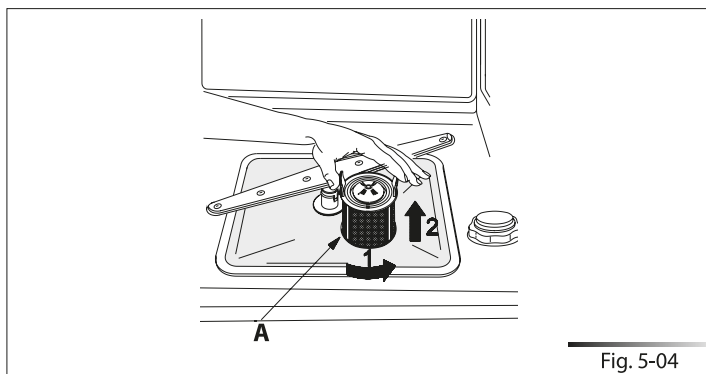

Fig. 5-04
- Periodically inspect the filter unit (ref. A fig. 5-04) and, if necessary, clean it under running water (at room temperature), using a stiff brush. To remove the filter, grip the tabs, turn anticlockwise and lift upwards;
- after cleaning, remount the filter unit, joining the two parts comprising the centre filter by pushing slightly until they click into place; insert the centre filter into the micro-filter (see fig. 5-05). Reposition the filter unit (ref. A fig. 5-04) into its seat, turning it clockwise until it locks.